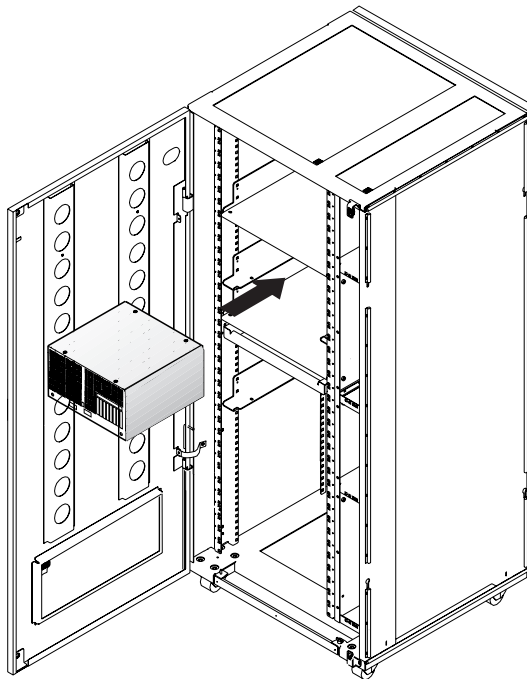

Figure 1-32. Installing the Service Processor Unit in the Controller Expansion (Rear Side)
17. ____ If installed, remove the four pads located under the unit, then slide the service processor unit on the brackets as shown in Figure 1-32.